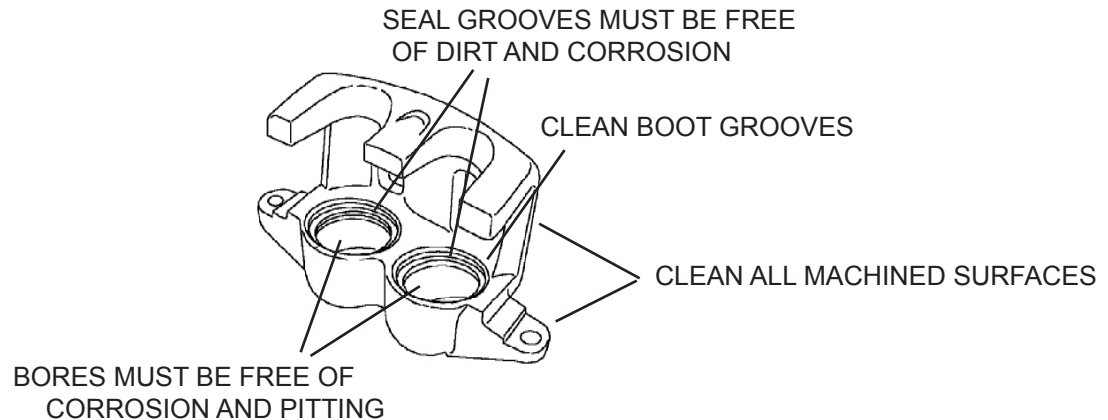

Figure 20. Clean and Inspect Caliper Machined Surfaces
2. Check external machined surfaces of the caliper, as shown in *Figure 20*. If any rust or corrosion is present at these locations, carefully clean the surfaces with a hand-held wire or brass brush.